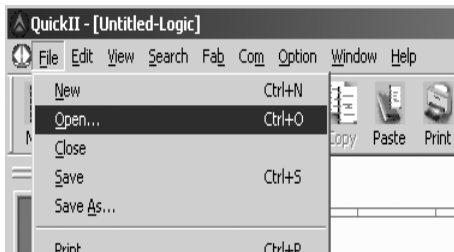

Fig 4.4
1. Click Open under the File menu or the icon  in the tool bar, as shown in Fig 4.4.